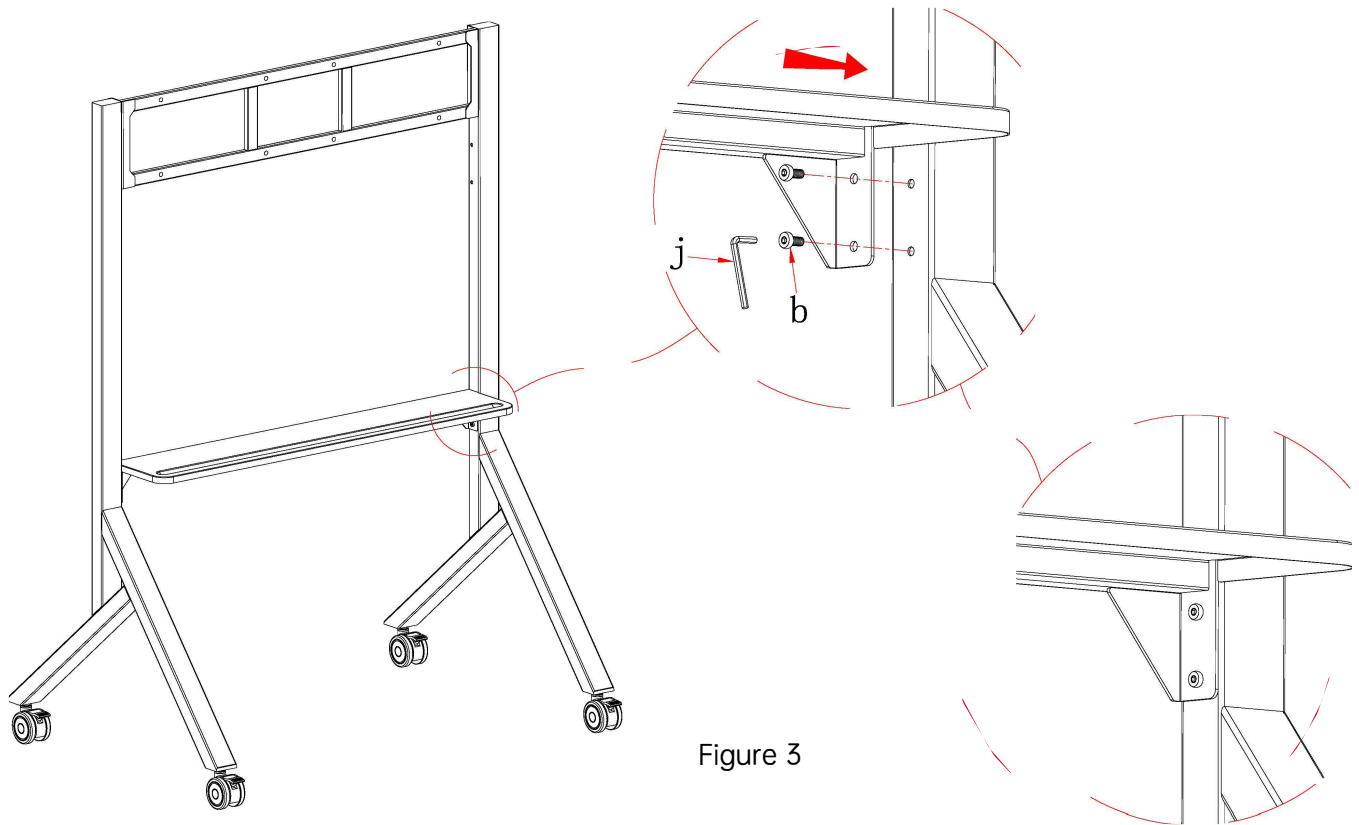

Figure 3
Step 3: Place the tray between the left and right columns with the connection frame installed, align the screws, and use the Allen key (J) to lock the 4 screws (B) (as shown in the figure 3)